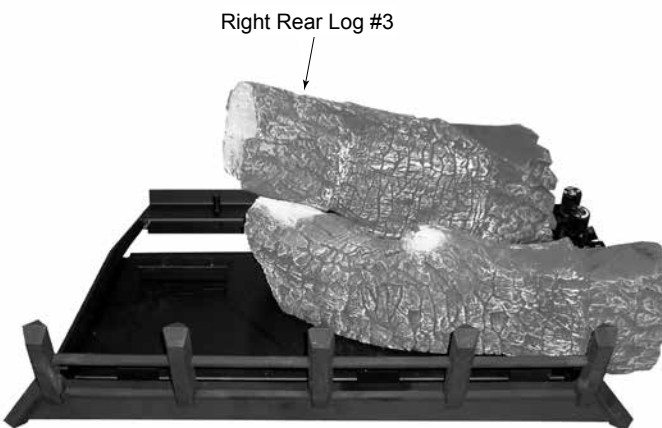

Figure 6.13 - Log #3 Placement
3. Place right rear log (#3) on pin located on rear support bracket and rest left side of log on front right log. See Figure 6.13. After placing right rear log, ensure log is fully upright and does not tilt forward. Slide #1 log ember chunk back to contact right rear log.